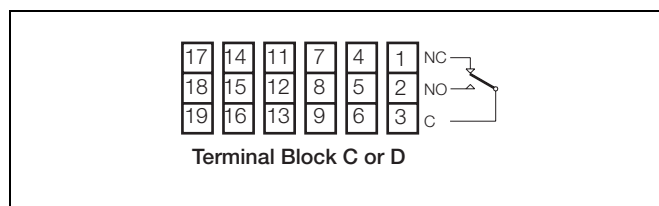

Fig. 5.11 Relay Connections
5.7 Relay Output Board Connections – Fig. 5.11